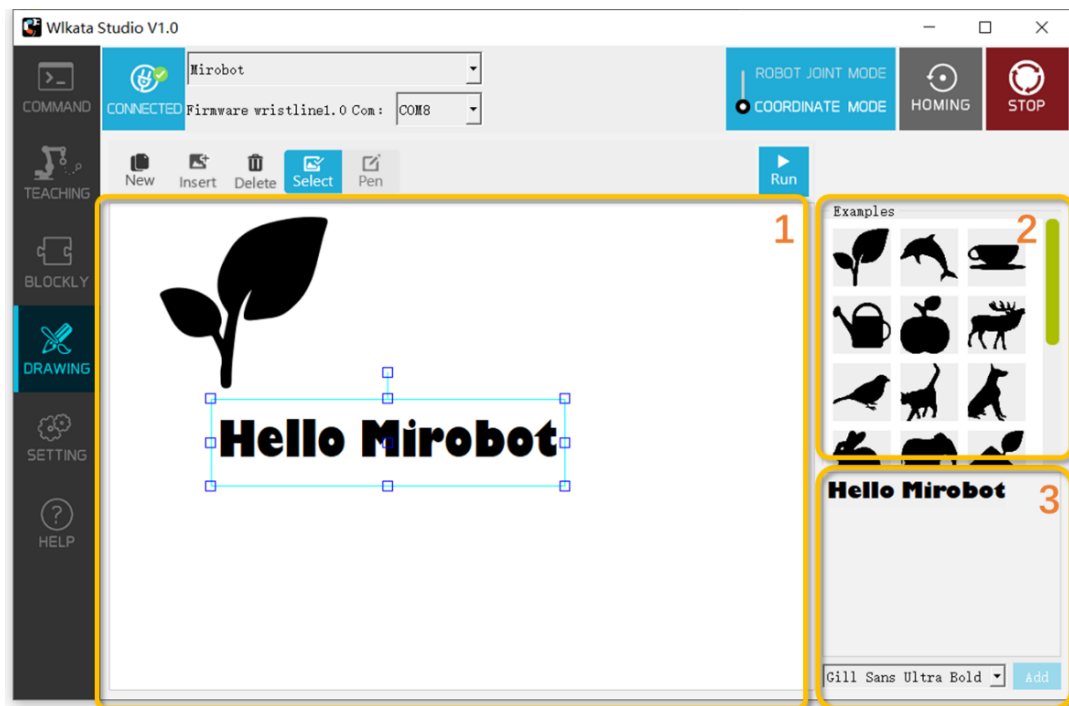
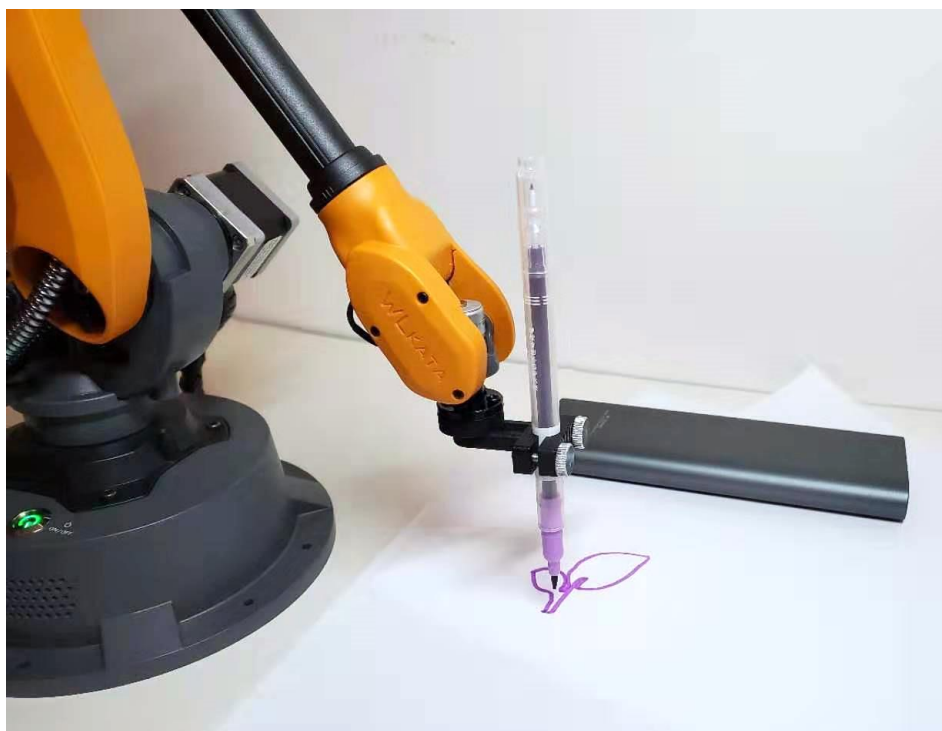

Figure 3.37 Inserting graph to the center canvas in the DRAWING page
Figure 3.39 Drawing by WLKATA Mirobot F1
(7) Click the **DRAWING** tab in the software to switch to the drawing page.
(8) To add a graph from existing files, you can either choose an example from the upper right panel 2 **Examples**, or insert a graph by click **Insert** button. The graph you have chosen should be shown in the center canvas. As show in Figure 3.37.
(9) To add a text graph, typing in the lower right panel 3 and click **Add** button, and the text you have typed should be placed in the center canvas, as shown in Figure 3.37.
(11) To adjust the size and position of the graph, ensure the **Select | Pen** button is in the **Select** mode → click the graph in the canvas and a resize frame would appear around the graph. Adjust the corners to resize the graph and drag the inner frame to change the position of the graph. As shown in Figure 3.37.
(12) To delete the unwanted graph on the canvas, ensure the **Select | Pen** button is in the **Select** mode → choose the unwanted graph on the canvas → click **Delete** button.
(13) To start the drawing, click **Run** button, and the manipulator will draw the graph(s) on the canvas. Figure 3.39
(14) To start over from a blank canvas, click **New** button to clear the canvas.